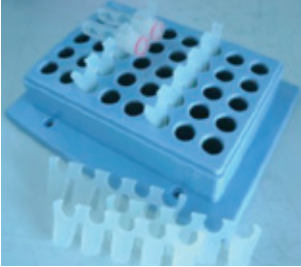

Figure 1: Reaction tube adapters
- At least 1 reaction tube adapter for 2 ml tubes for the thermal shaker, Sartorius; Order No. 1Z----0005 (5 tubes per adapter; see Figure 1; custom adapters can be supplied)